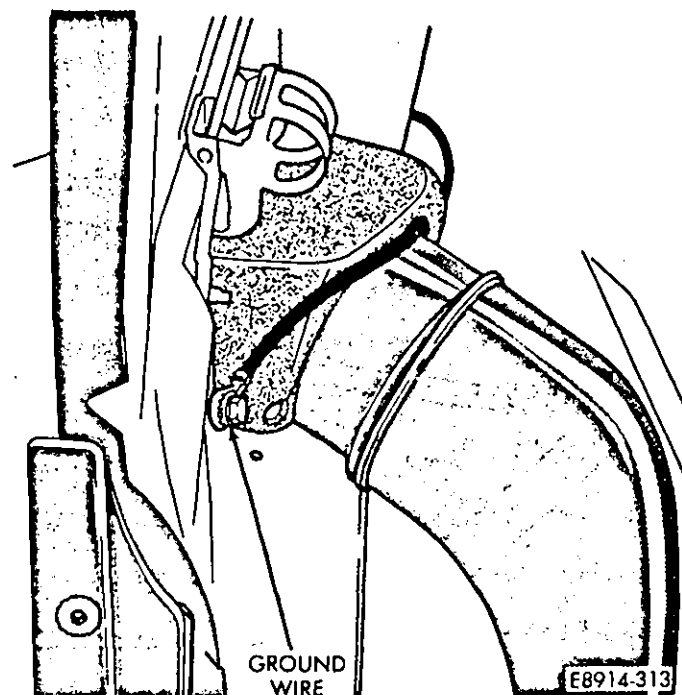

Fig. 7—Ground Wire
(4) Raise the vehicle on a hoist (Refer to Engine/Transmission/Cradle Removal/Installation Section—Vehicle Lifting Information).
(5) Remove the right rear tire and wheel.
(6) Remove the splash shield from the wheel well.
(7) Remove ground wire retaining screw (Fig. 7).
(14) Install ground wire with retaining screw (Fig. 7).
(15) Install splash shield in wheel well.
(16) Install rear tire and wheel. Tighten wheel lug nuts to 85 N·m (63 ft-lbs) torque.
(17) Lower the vehicle.
(18) Fill tank with fuel.
(19) Install fuel filler cap.
(20) Connect the battery negative cable.
(21) Turn key to the ON position and inspect for leaks.